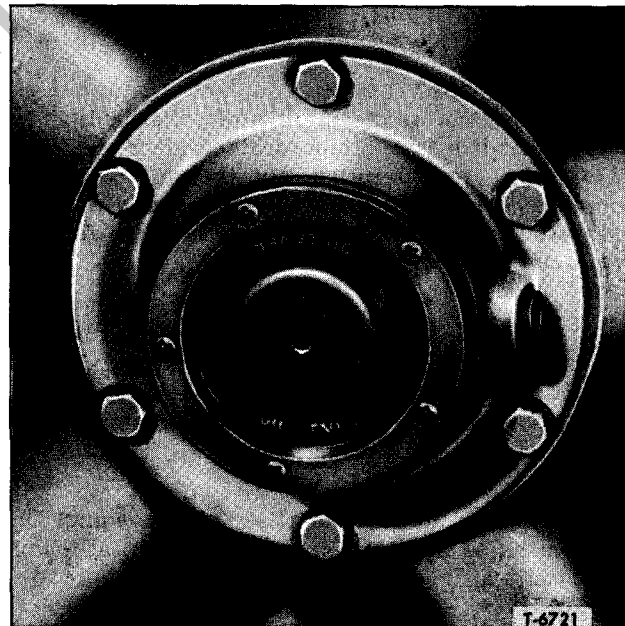

Figure 17—Oil Lubricated Front Wheel Bearings
1. Rotate wheel until "OIL LEVEL" (fig. 17) is at bottom.